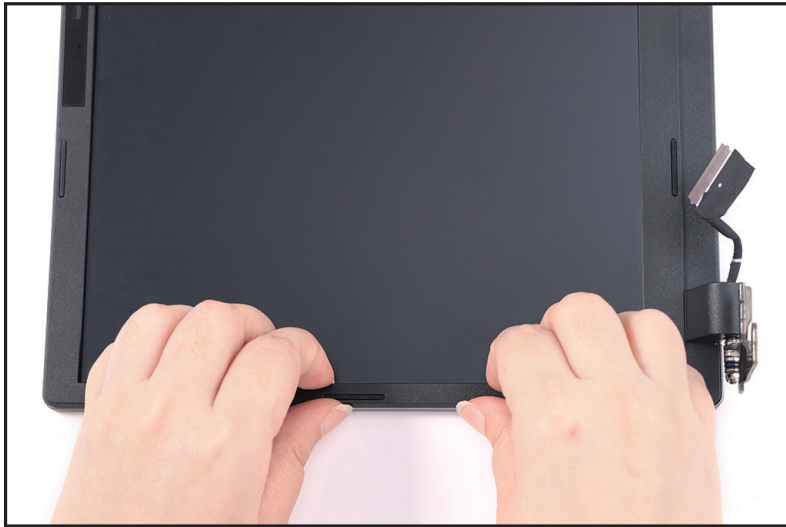

Figure 1-43. LCD Bezel Removal
3. Continue prying along the left side of the bezel (Figure 1-43).